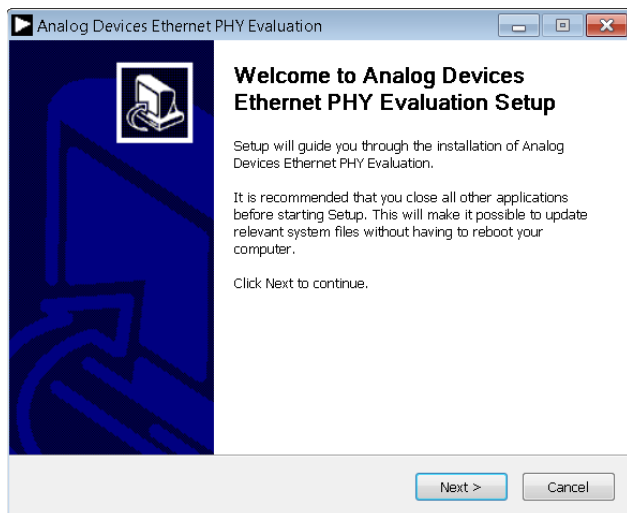

Figure 7. Welcome Window
3. The welcome window appears (see Figure 7). Click **Next**.